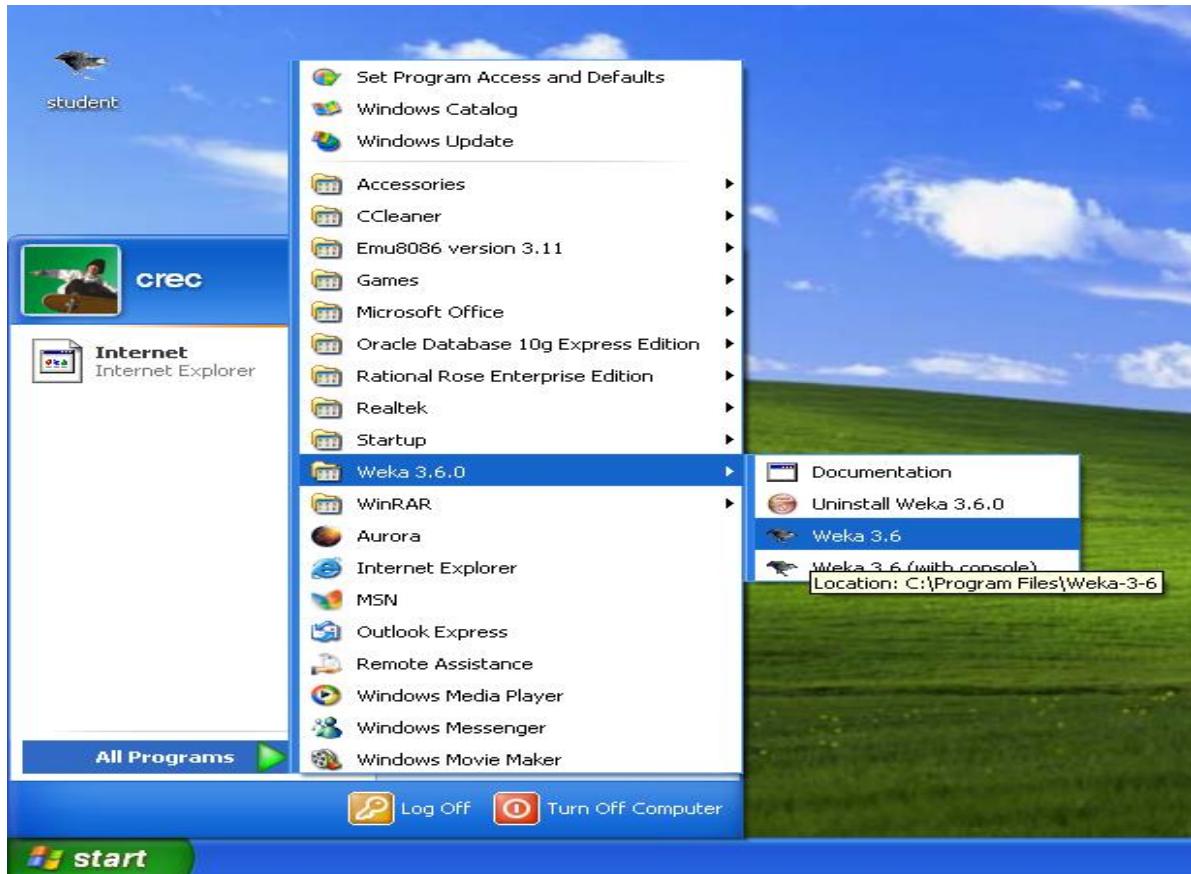

Figure-1
1. Open the WEKA application as shown in the above figure-1